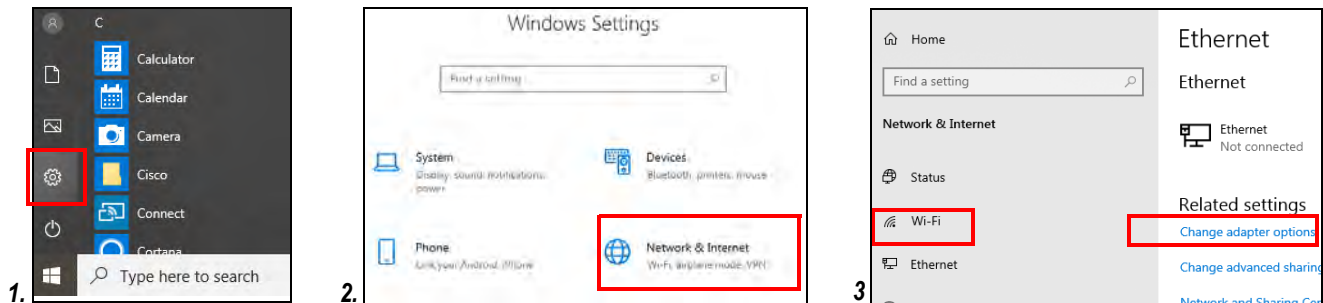

Figure 2-6. Setting IP Address
1. From the Start menu, select Settings. See step 1 in Figure 2-6.
2. In Windows Settings, select Network and Internet. See step 2 in Figure 2-6.
3. In Network and Internet, select Ethernet, then select Change Adapter Options. See step 3 in Figure 2-6.